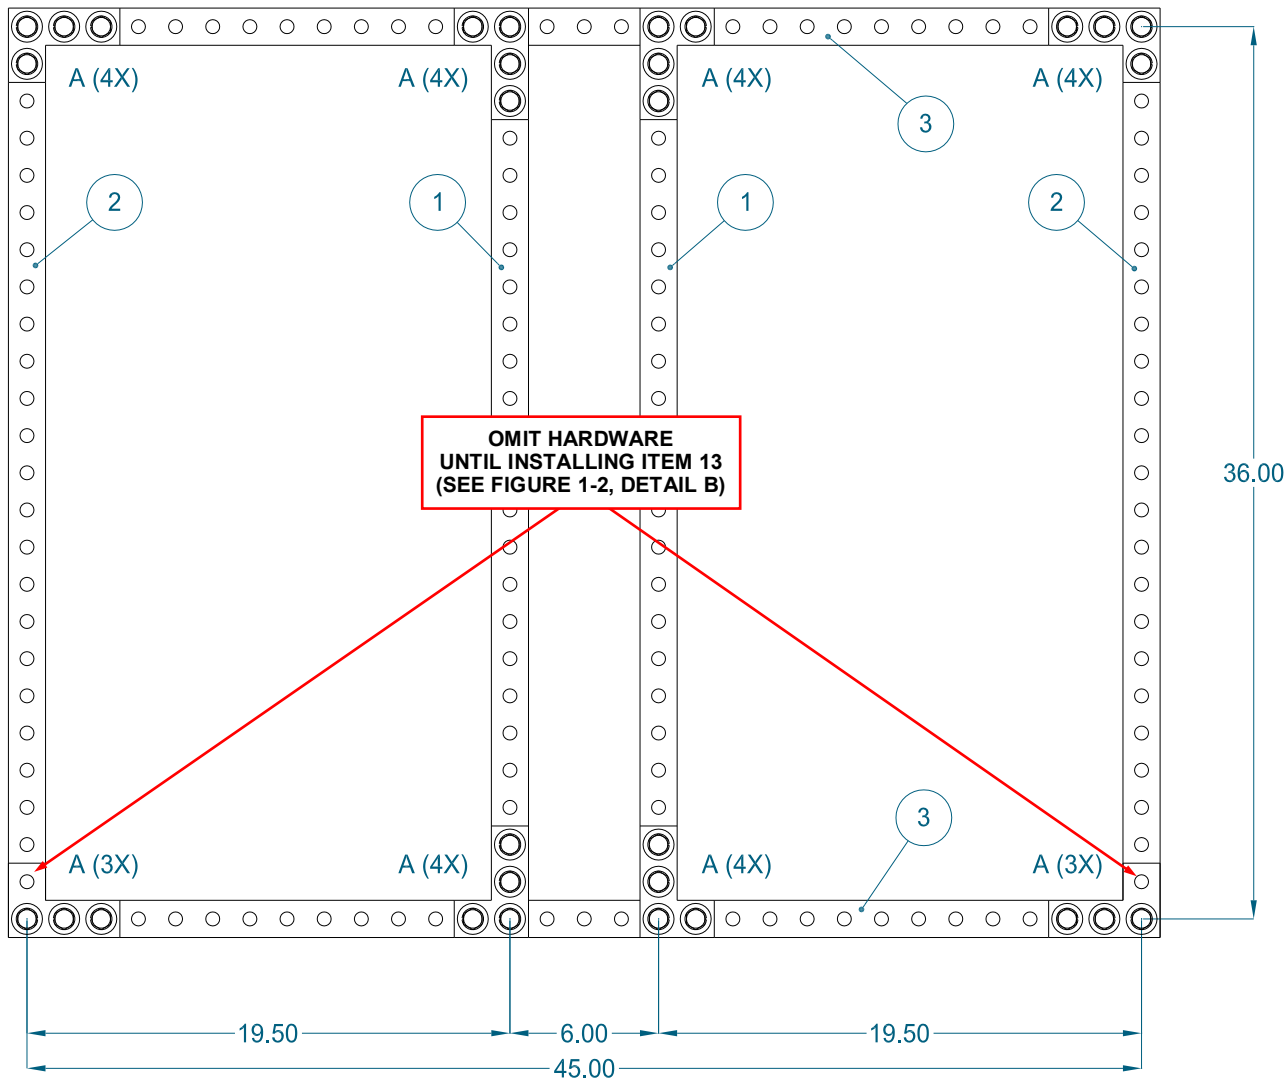
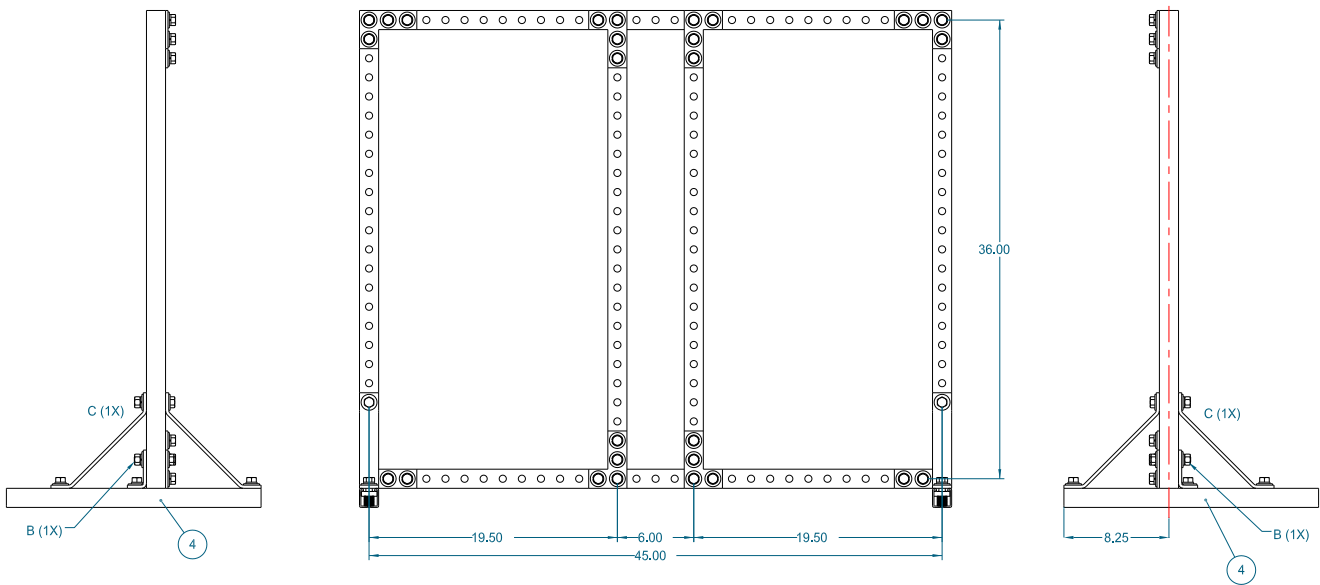

Figure 1-1: Uni-Strut Assembly
Figure 1-3: Uni-Strut Assembly, Base Strut
Reference the parts list in **Table 1-1** and **Figure 1-1**, **Figure 1-2**, and **Figure 1-3** throughout the assembly of the mounting frame.
1. Arrange the uni-strut sections (Items 1, 2 and 3) as shown in **Figure 1-1**. Secure the 4-hole L-brackets (Item 12) on the flat side of the uni-strut as shown in **Figure 1-1**, and refer to **Figure 1-2, Detail A** for hardware placement.
2. Arrange the 20" sections of uni-strut (Item 4) as shown in **Figure 1-3**,
3. Secure the 2-hole angle connectors (Item 13) to the uni-strut base and frame as shown in **Figure 1-3**, and refer to **Figure 1-2, Detail B** for hardware placement.
4. Attach the corner braces (Item 11) to the uni-strut base and frame as shown in **Figure 1-3**, and refer to **Figure 1-2, Detail C** for hardware placement.